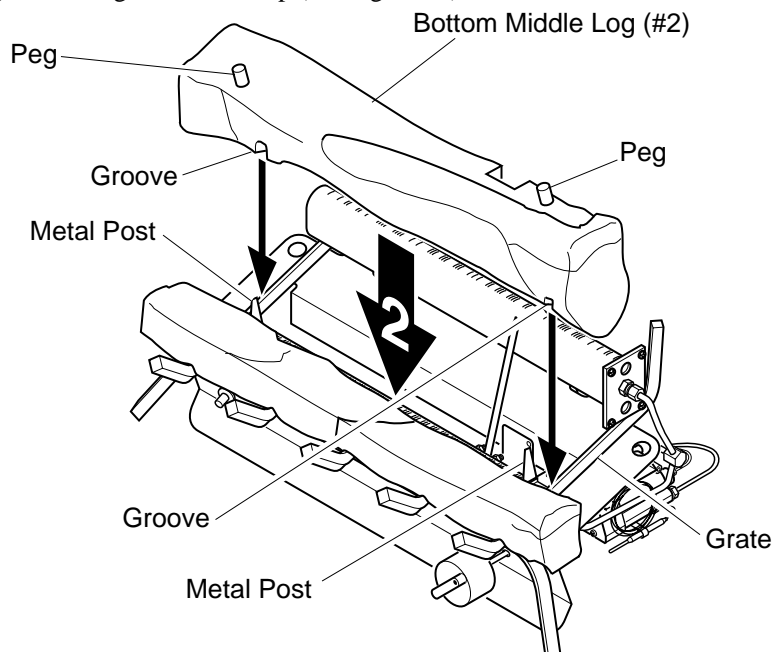

Figure 17 - Installing Bottom Middle Log (#2)
2. Rest bottom middle log (#2) behind metal posts on front burner. Make sure the grooves in the bottom of the log fit over the grate. Bring the log forward next to the metal posts. The pegs on the log must be on top (see Figure 17).